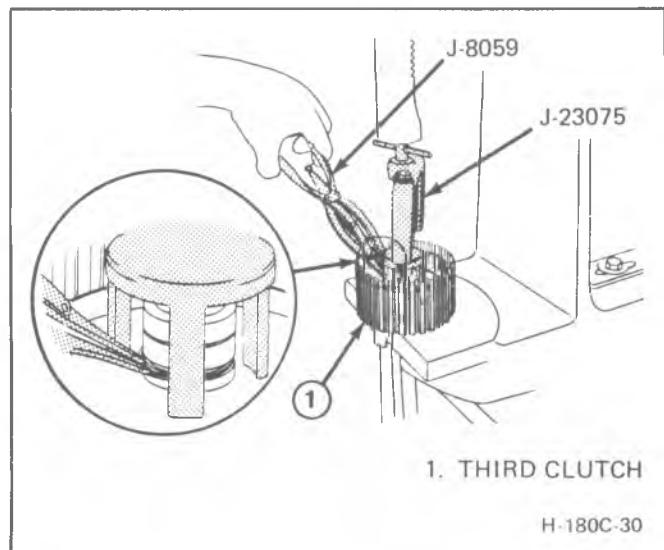

Figure 23 Removing or Installing Third Clutch Piston
**Disassemble (Figures 23 and 24)****Tools Required**
(Figures 23 and 26)